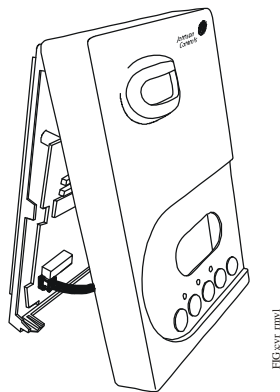

Figure 1: Removing the Thermostat Controller Cover (TEC26x6H-4+PIR Model Shown)
2. Pull the bottom edge of the thermostat cover and open the thermostat as illustrated in Figure 1.